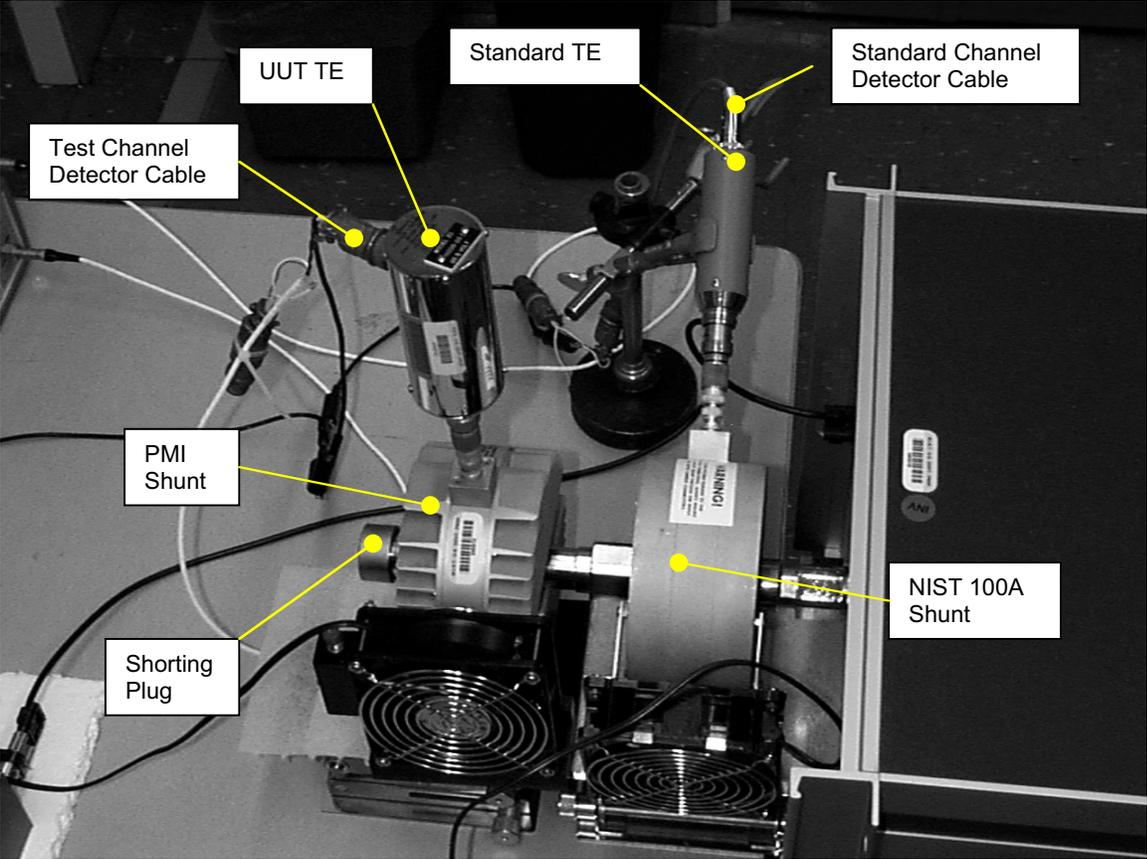

Figure C-3. A Precision Measurements shunt connected in series to a NIST shunt on one of the automated systems.
This is a set of four current shunts intended to cover ranges of 10 A to 100 A. These shunts are coaxial in design, the resistance element being a circular array of small resistors sandwiched between two circular plates. The current path is coaxial through the shunt, and the potential leads are brought through the shunt casing perpendicularly to the resistor array. The input and output connectors are Type LC. These shunts are designed to be used coaxially in series, so that the shunt at the bottom of the series (the test, in the NIST convention) must have a shorting plug connected to its output current terminal. A photograph of a PMI shunt connected to an automated system is shown in Figure C-3.
- ii. For currents greater than 20 A, the NIST standard will also be a high-current shunt as shown in Figure C-3. Screw this 100 A shunt onto the output connector of the Clark-Hess 8100 amplifier.